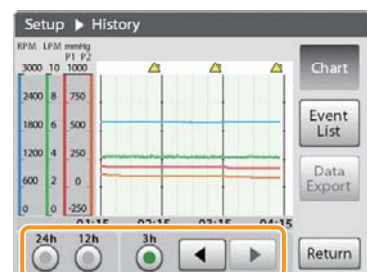

Figure 3-48
1. Select a time axis. (Figure 3-48)